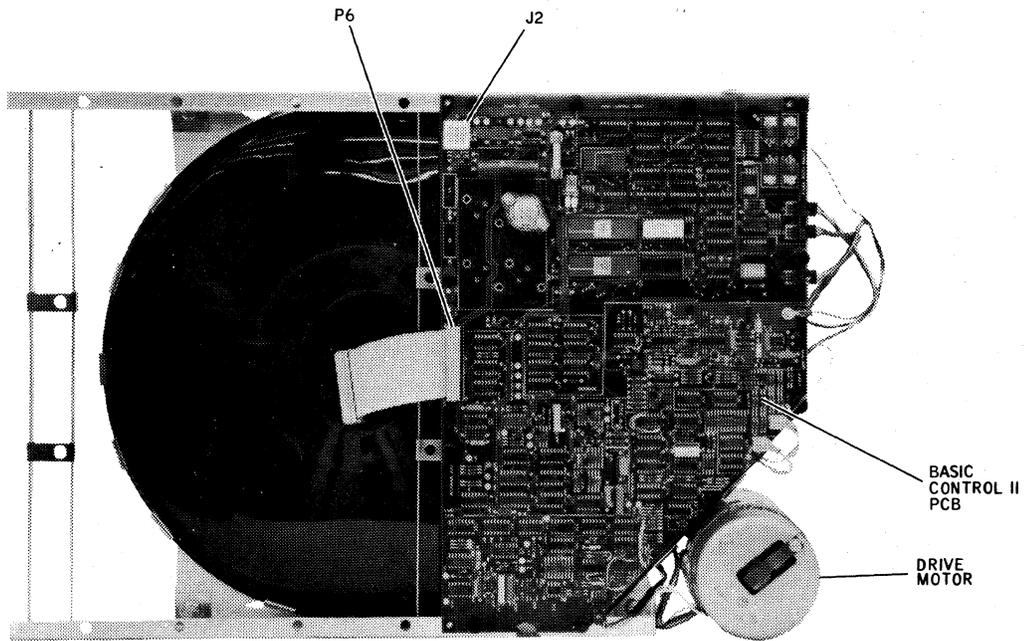

Figure 2-1. Marksman Disk Drive (Top View)
5. Lift disk drive out of styrofoam container and place on the workbench on its side with drive motor down (Figure 2-1).